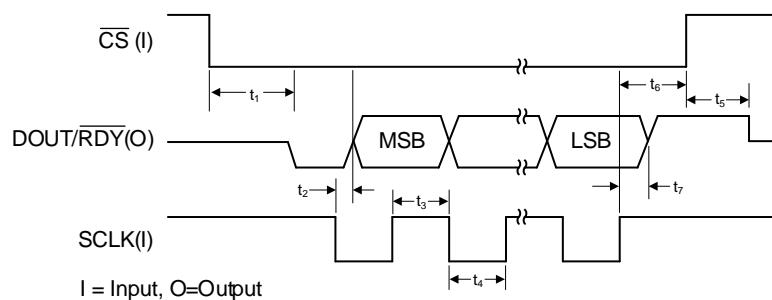
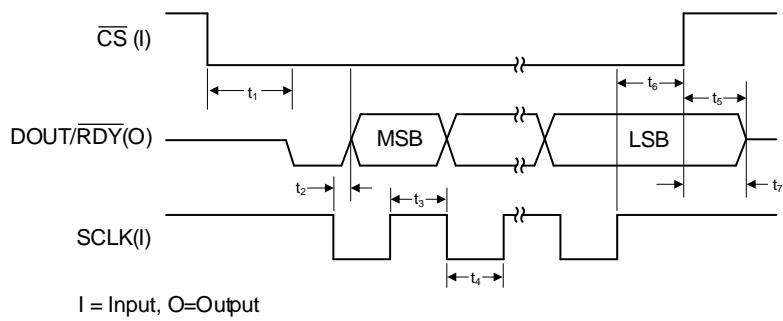
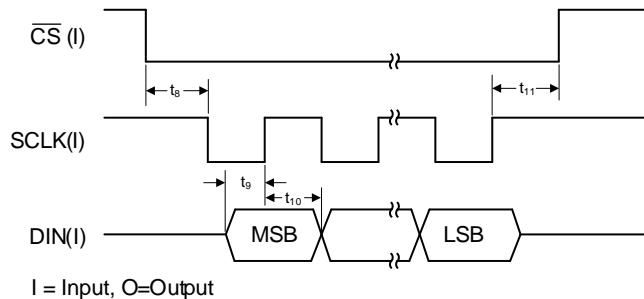

Figure 1: Read Cycle Timing Diagram (CS\_EN Bit Cleared)
Figure 2: Read Cycle Timing Diagram (CS\_EN Bit Set)
Figure 3: Write Cycle Timing Diagram
SERIAL INTERFACE (SEE Figure 1 TO Figure 6)
2. See Figure 1, Figure 2, Figure 3, and Figure 4.